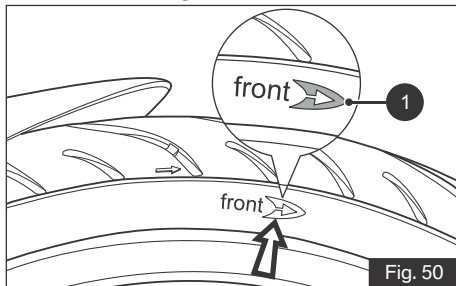

Fig. 50
- While re-assembling the tyre, ensure that the arrow mark (1) provided on the side walls of the tyre faces the direction of wheel rotation (ref. Fig. 50).